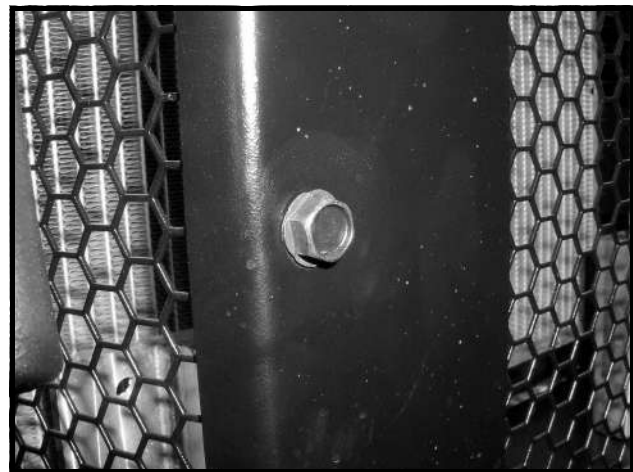

Figure 15-5 Radiator Guard Front Bolts
8. Remove the front frame bolts from the radiator guard (**Figure 15-5, Page 15-5**).